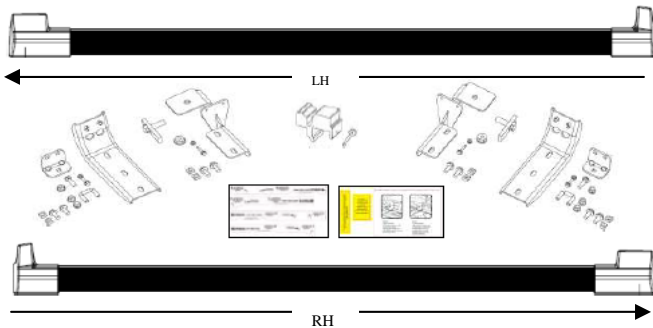

Fig 1-1
- Layout parts to check for damage. Check hardware bag contents for correct type and quantity as listed above. (Fig. 1-1)